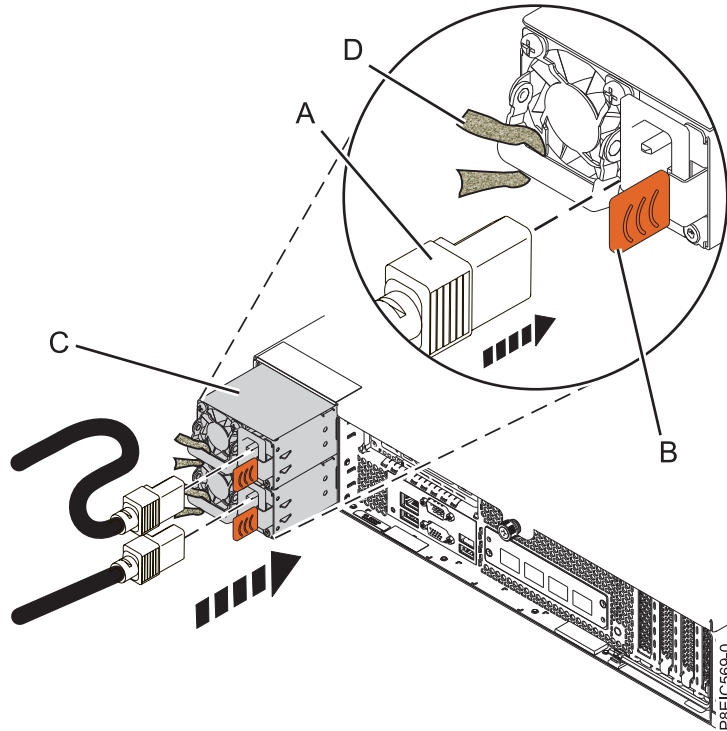

Figure 55. Replacing a power supply in the system
1. Align the power supply (C) with the bay and slide the power supply into the system until the latch (B) locks in place. See Figure 55 on page 85.
- a. Connect the power cord to the power supply, as shown in Figure 55.